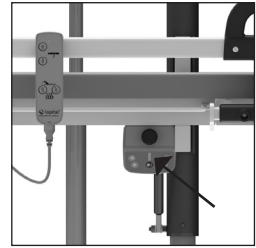

Figure 11 Emergency lowering button.
If the handcontrol stop working and the dressing table is in a raised position, it can be lowered using the emergency lowering button. This button is located on the controlbox (See figure 11).
- Press the emergency lowering button (See figure 11).